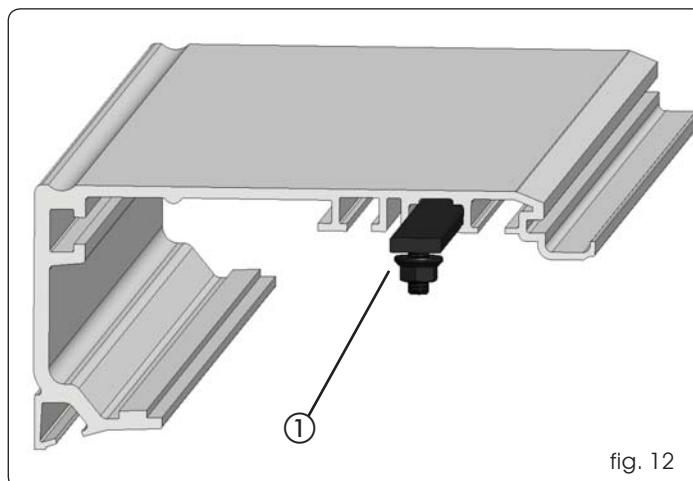

fig. 12
Insert the rod with tie-rods sideways on the support profile in order to fit the electronics module fig.12 ①